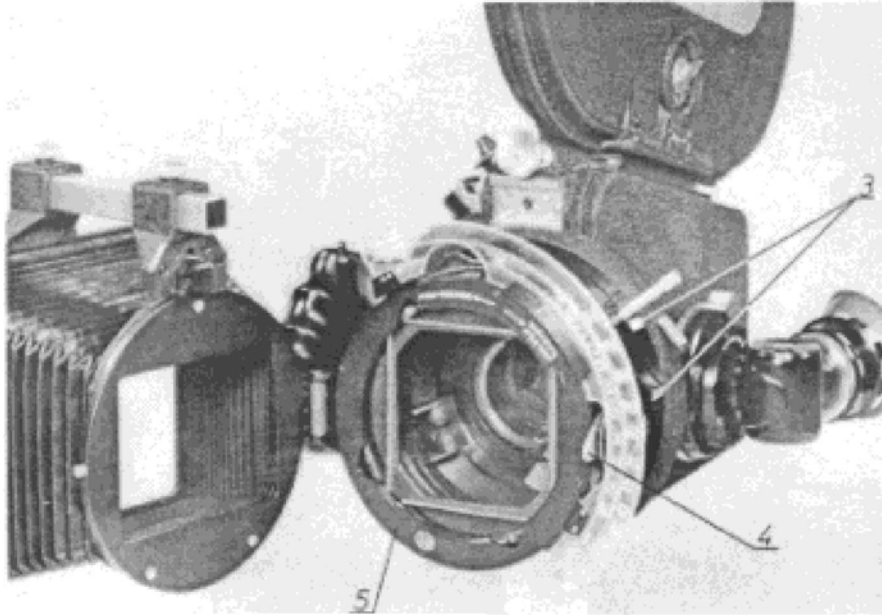
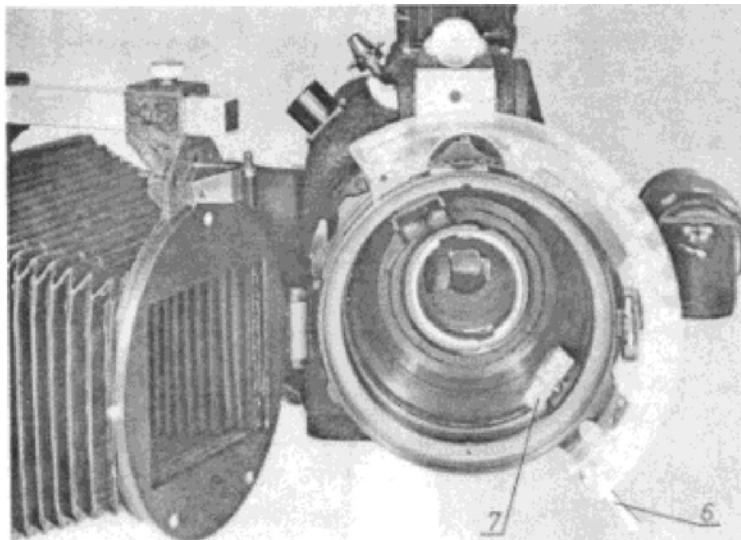

Fig 3
Fig.4
ii. Turn the locking ring (Fig. 3/3) to give a firm seating, loosen the closure of the front door (Fig. 3/4), open the hinged door and remove the filter holder (Fig, 3/5). Set focusing lever at infinity and swing out diaphragm driver (Fig. 4/7).
v. Insert the filter holder (Fig. 3/5) and close the front door (as for zoom lenses).